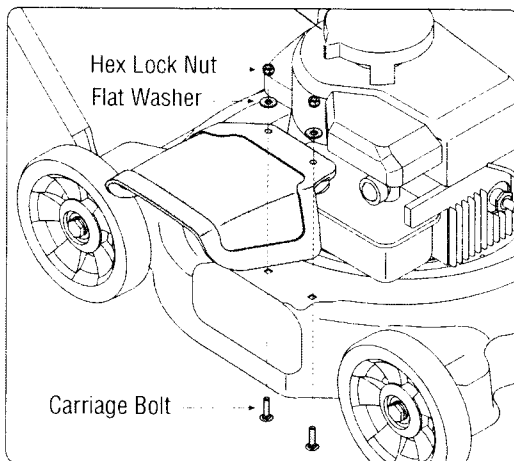

Figure 10: Attaching the chute deflector.
2. Using group 5 from hardware pack, place carriage bolts from underside of the deck and up through the chute deflector. See Figure 10.